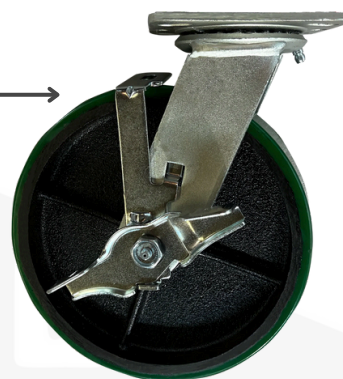

Figure 7. Locking Caster Wheels
- Step 2:** **BEFORE** lowering the camper onto the dolly lock “Front” caster wheels (Part **C**) (Figure 7).
- Step 5:** When preparing to move the camper and dolly unlock the “Front” caster wheels (Part **C**) (Figure 7).
- Step 7:** Lock the “Front” caster wheels (Part **C**) once the dolly has been moved to the desired storage location (Figure 7).